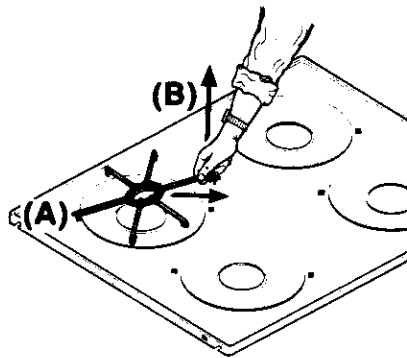

FIGURE 2
**STEP 1 -** Hold grate leg (B) (the one opposite to grate leg with clip), pull horizontally away from the clip and raise leg as shown in figure 2.